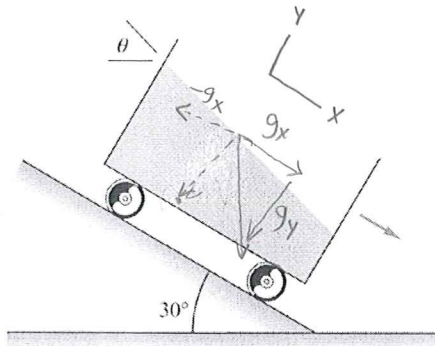

Figure 1
D. The tank of water in figure 1 accelerates uniformly by freely rolling down a 30° incline. If the wheels are frictionless, what is the angle θ ? assumptions: no sloshing, smooth wheel